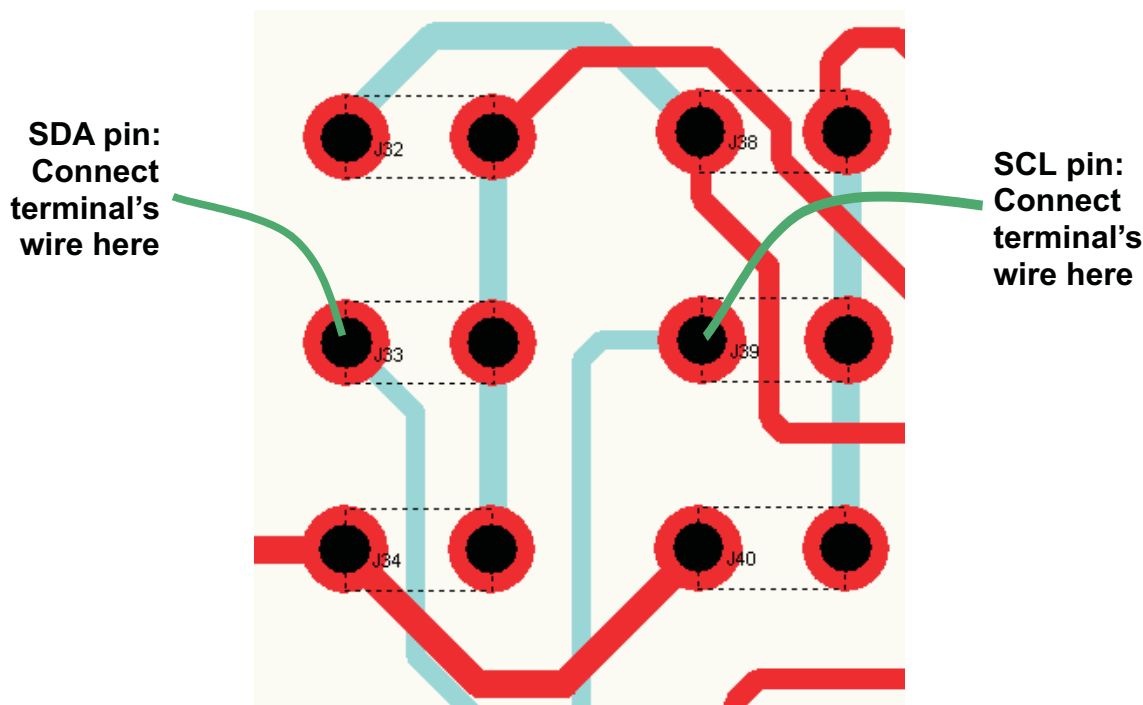

Figure 4. EVM Region Showing SDA Pin and SCL Pin Locations
- Connect the SDA wire and the SCL wire as shown in Figure 4. This is a zoomed view of the EVM region where the jumpers 32, 33, 34, 38, 39, and 40 are placed.